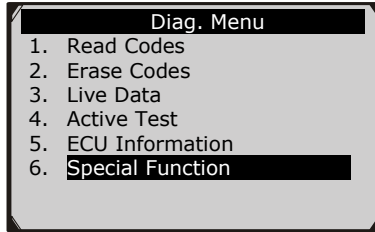

Figure 8.19
- 1) In the **Diagnostic Menu** (Figure 8.19), use the **UP/DOWN** button to select **Special Function** to do the ABS test. The scan tool displays as below.
- 1) In the **Diagnostic Menu** (Figure 8.19), use the **UP/DOWN** button to select **Active Test** to do the 8.test. The scan tool displays as below.